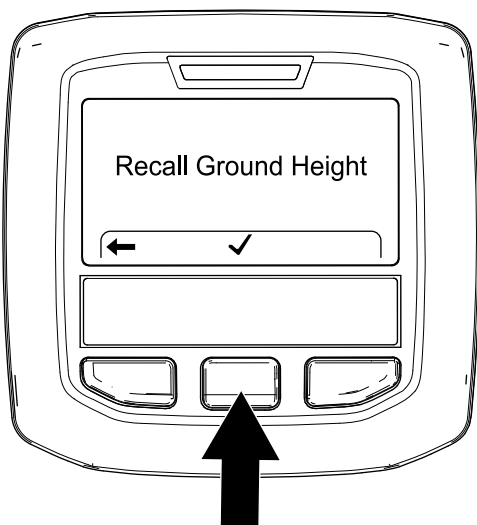

Figure 114
3. On the Recall Ground Height screen (Figure 114), press the center InfoCenter button.